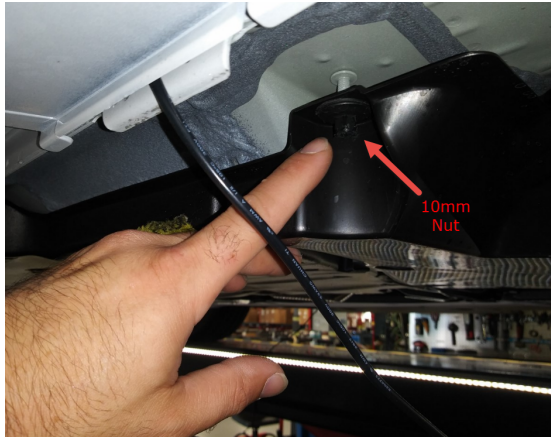

Figure 21
15. Remove the plastic 10mm nut shown in Figure 21 from the front floor cover LH in order to gain access to the front floor pan drain grommet.